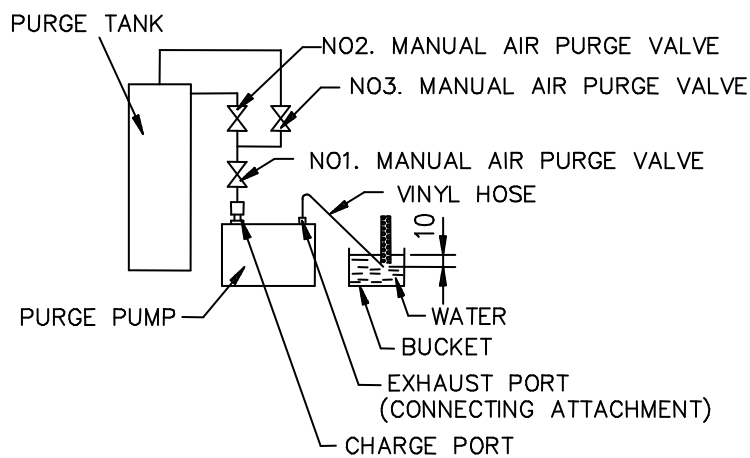

Fig. 7-14.
- (1) Perform air-purging until the inside pressure of the machine reaches the allowable degree of vacuum, and then continue air-purging at least for one hour.
- (2) Make sure that the attained vacuum of the purge pump is under 4mmHg.
- (3) Remove the exhaust port cap of the purge pump, and install the connecting attachment to the exhaust port of purge pump and fix the vinyl hose to the connecting attachment as shown Fig. 7-14.
- (4) Manual air-purge valves(Diaphragm valves) should be set as follows